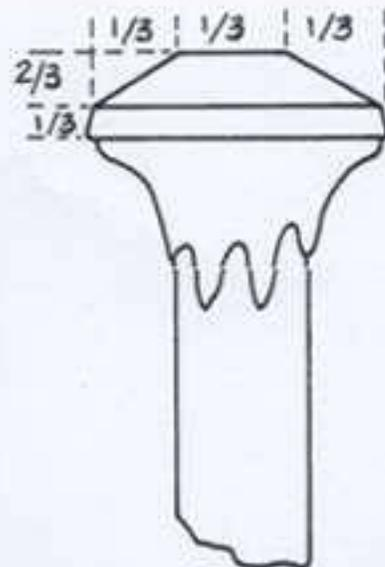

Fig. 6
5. Dopping -- attach the stone to a dop stick (Fig. 6) The stone's size will determine the diameter of the dop stick. Use extreme care in heating the stone before placing it on the stick. Do not burn or boil the dop wax.